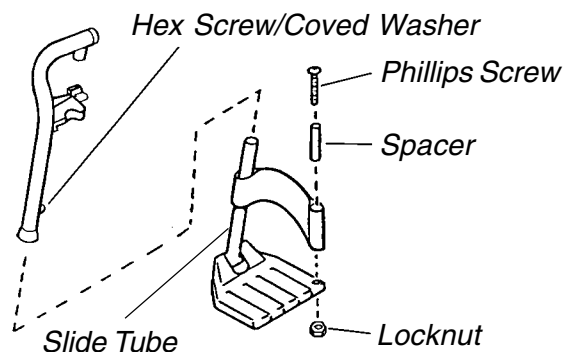

**FIGURE 2 - SWINGAWAY FOOTREST HEIGHT ADJUSTMENT**
**SWINGAWAY FOOTREST HEIGHT ADJUSTMENT (FIGURE 2)**